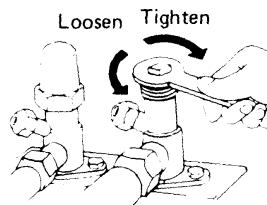

Fig. 34
- d) After 45 seconds, fasten the flare nut **(A)** of wide tube tightly as it was. Fig. 34